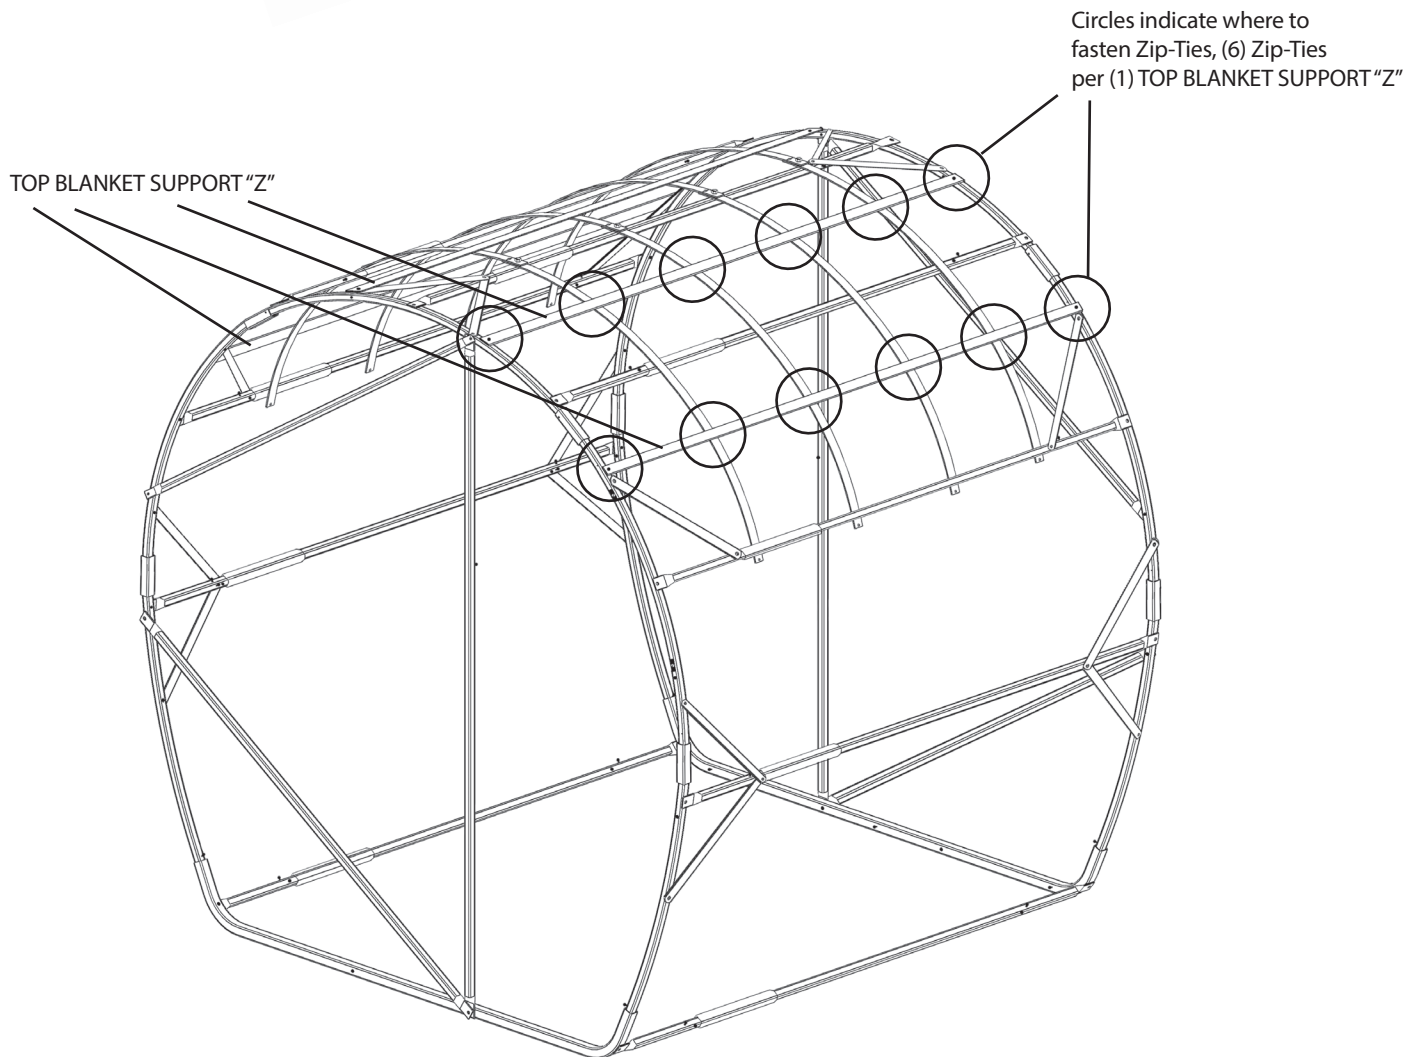

Figure 31.1
STEP 23: Using a total of (24) Zip-Ties, (6) Zip-Ties per TOP BLANKET SUPPORT "Z", align and fasten the (4) TOP BLANKET SUPPORTS "Z" along the top of the bale blind frame. Begin at the hole ends of the TOP BLANKET SUPPORT "Z", attaching each end to the End Hoop frame, then attach the middle portion of the TOP BLANKET SUPPORT "Z" where it lays over each TOP CROSS BRACE "L", as illustrated in Figure 31.1.